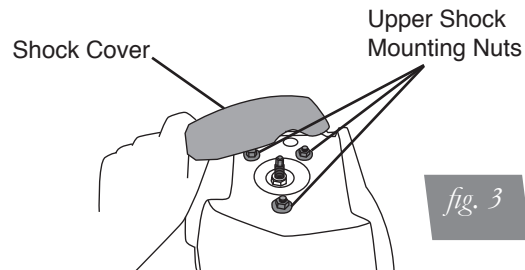

fig. 3
2. Locate the shock cover under the hood of the car (Fig. 3).